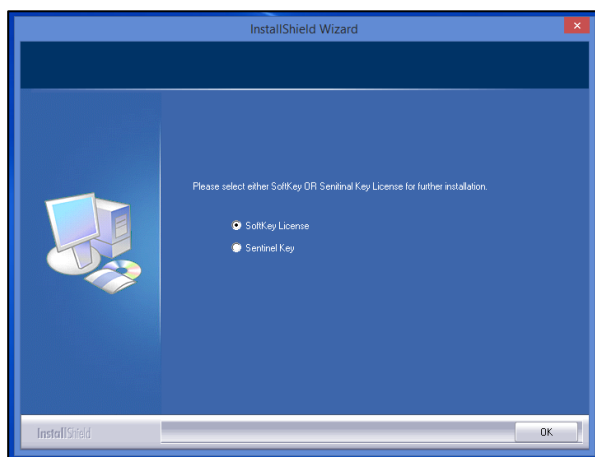

Figure 3. Software Key License
- a. If the user has a HunterLab USB hardware key, then it can be used with a new sensor on the same computer. Return to Install, Step 5 (Figure 3) and select the **Sentinel Key** to continue.